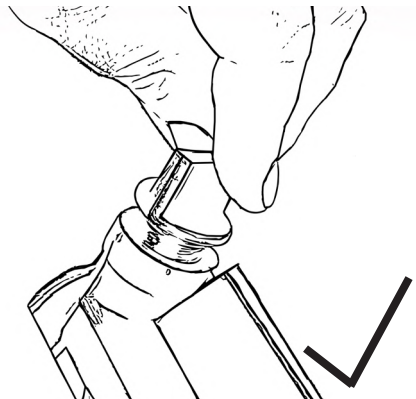

Figure 13
- Unscrew the oil filler plugs with connected dipstick, Fig. 13.